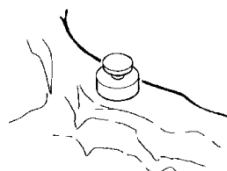

Fig. D1
2. Place a LOCATOR® Impression Coping with Black Processing Replacement Male onto each LOCATOR® Abutment. (Fig. D1)